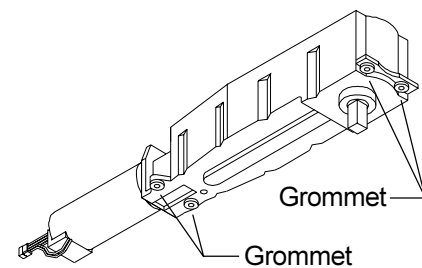

Figure 5-2
- 5.3. Check that there is a rubber grommet inside each of four mounting holes on the operator (Figure 5-2).